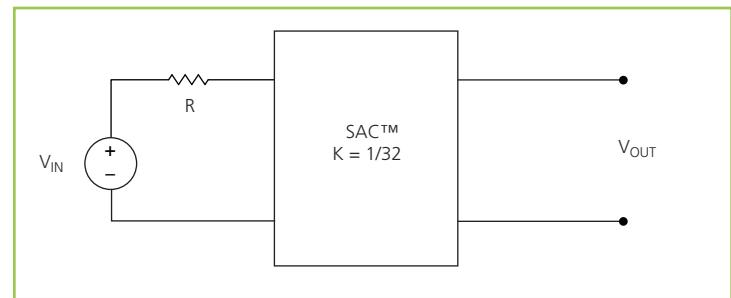

Figure 15 —  $K = 1/32$  Sine Amplitude Converter™ with series input resistor
The use of DC voltage transformation provides additional interesting attributes. Assuming that  $R_{OUT} = 0 \Omega$  and  $I_Q = 0 A$ , Eq. (3) now becomes Eq. (1) and is essentially load independent, resistor  $R$  is now placed in series with  $V_{IN}$  as shown in Figure 15.
Assuming that  $R = 1 \Omega$ , the effective  $R$  as seen from the secondary side is  $0.98 \text{ m}\Omega$ , with  $K = 1/32$  as shown in Figure 15.